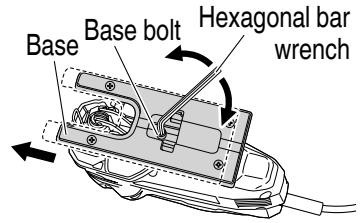

Fig. 7
- (1) Loosen the base bolt by hexagonal bar wrench attached on base, and move the base fully forward (**Fig. 7**).
- (1) Loosen the base bolt by hexagonal bar wrench attached on base. (Fig. 7 on page 25)
- (2) Move the base fully forward (Fig. 7 on page 25), and tighten the base bolt again.
- (1) Loosen the base bolt hexagonal bar wrench attached on base. (**Fig. 7 on page 25**)
- (2) Move the base fully forward, and tighten the base bolt again. (**Fig. 7 on page 25**)
- (3) Set the orbital position to "0".
- (1) Loosen the base bolt by hexagonal bar wrench attached on base and move the base fully forward. (Fig. 7 on page 25)
- (3) Tighten the base bolt again. (Fig. 7 on page 25)
- (4) Set the orbital position to "0"-**"III"**.